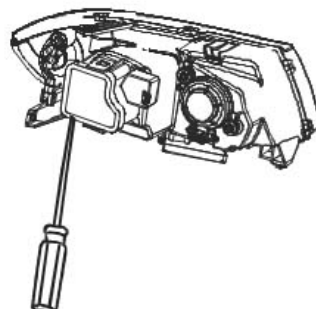

Fig. 4-83
(5) Low beam adjustment: As shown in the Fig., vertically move the screw for focusing adjustment to adjust the focusing of low beam, when turning the screw clockwise, the focusing light moves upward, contrarily, downward. As shown in Fig. 4-83.